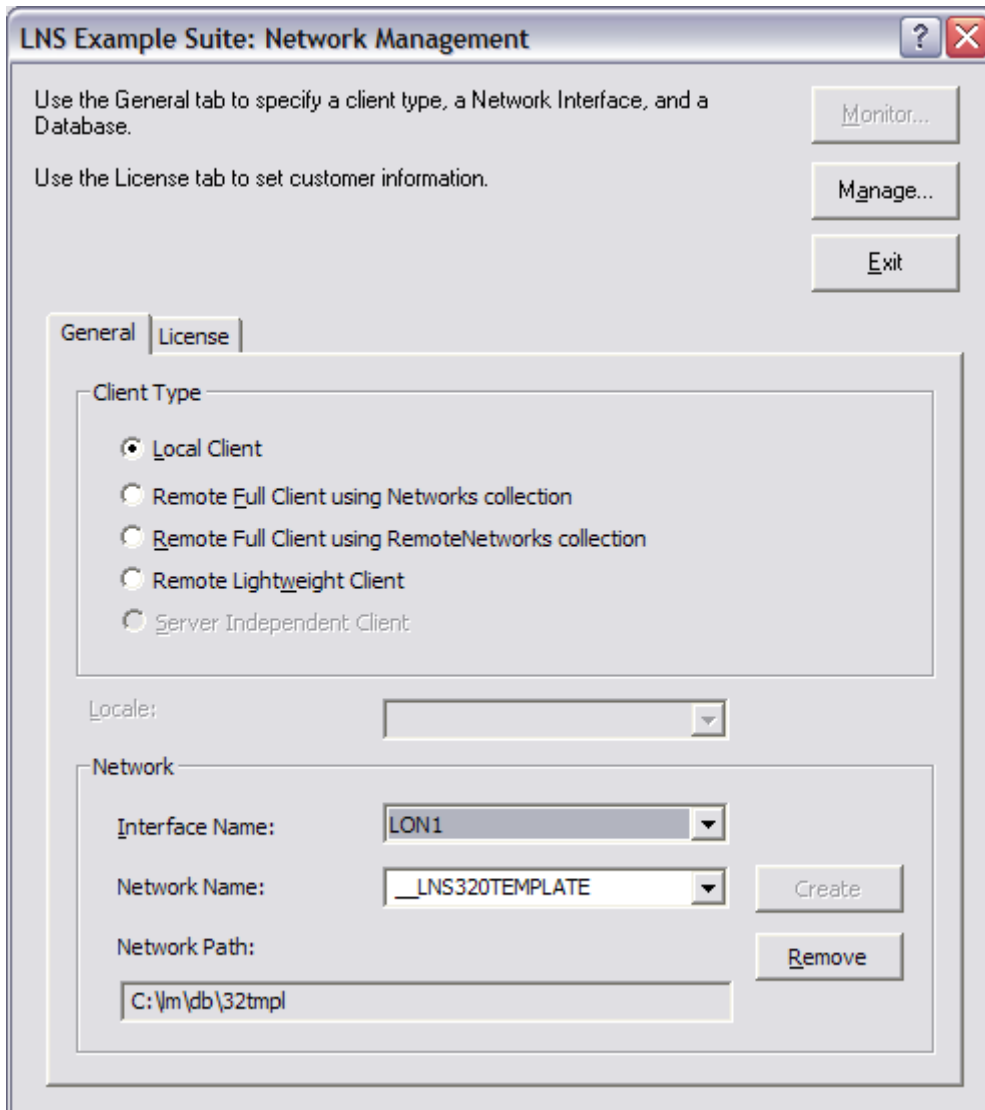
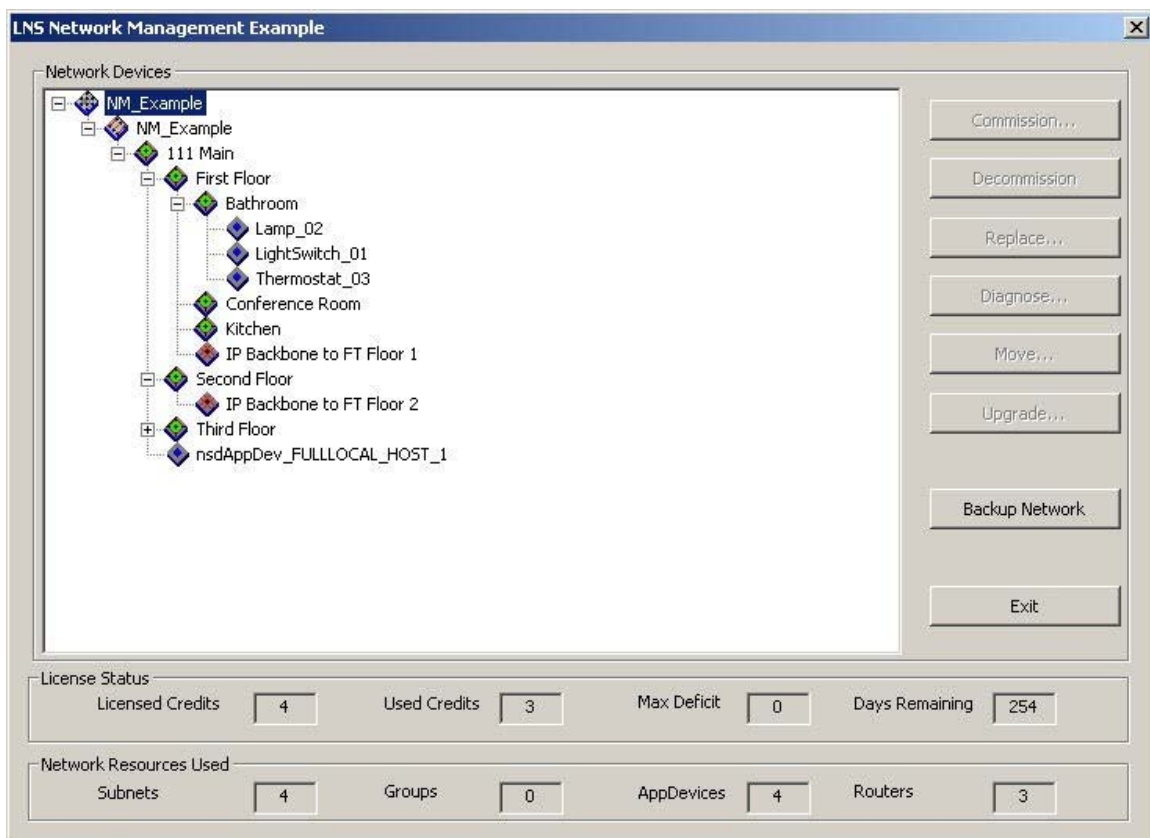

Figure C.1 Example Network Management Application
Figure C.2 Performing Network Management Tasks
The following sections describe the features encompassed by the example network management application. To start the network management example application, select **Echelon LNS Application Developer's Kit>Examples & Tutorials>LNS Network Management Example** from the Windows Programs menu. This opens the dialog shown in Figure C.1.
There are several steps you need to take when opening a network with an LNS application, as described in Chapter 4 of this document. To initialize the example network management application, follow these steps from the dialog shown in Figure C.1:
4. Once you have selected a client type, a network interface and a network, you need to specify the licensing mode, as described in Chapter 4 of this document. To select the licensing mode, select the **License** tab on the dialog shown in Figure C.1. You will then be able to select either Standard Mode or Demonstration Mode. If you select Standard Mode, you will need to enter the customer ID and customer key.
6. Now, select the **General** tab to return to the dialog shown in Figure C.1. If you selected a new network in step 3, click the **Create** button (or the **Add** button if you are running as a Lightweight client). This creates an example network if you are running as a LNS Full client using the `Networks` collection, or adds an entry to the global database if you are running as a Lightweight client.
Once you have initialized the example network management application, you can perform network management tasks with the application. To do so, select the **Manage** button on the main dialog shown in Figure C.1. This will open a dialog similar to the one shown in Figure C.2:
in Figure C.2, the Lamp_02, Lightswitch_01 and Thermostat_03 devices all belong to the 111 Main.First Floor.Bathroom subsystem.
Network management operations that you can perform are listed on the right side of the dialog shown in Figure C.2. If you are using the network setup of LTM-10A devices recommended earlier in this chapter, you can perform all of the tasks described in the rest of this section.
5. Click **OK**. If no errors are encountered, focus will return to the dialog shown in Figure C.2. You will notice all pushbuttons on the right side are active. You have successfully commissioned your device.
Table C.2 describes some of the other tasks you can perform from the dialog shown in Figure C.2. To perform them, select a device, and then click the applicable button.